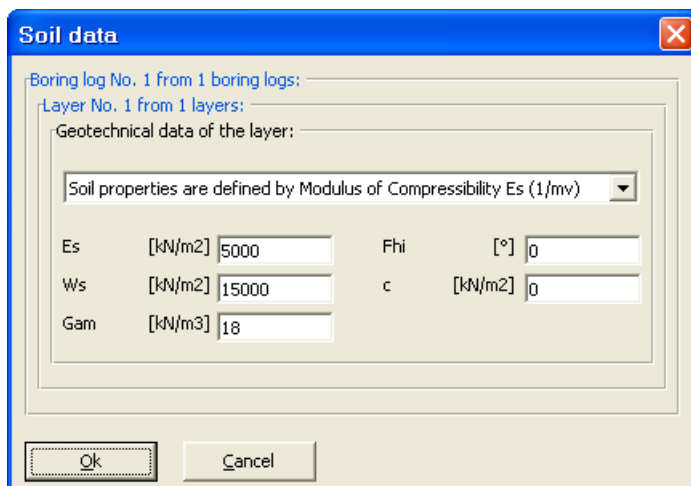

Figure 9-16 "Geotechnical data of the soil layer" dialog box
- Double-click on the geotechnical data of the soil layer. The corresponding dialog box appears allowing you to modify the geotechnical data of the soil layer, Figure 9-16
- In the dialog group box "Geotechnical data of the layer" in Figure 9-16, define the geotechnical data of the soil layer as follows: